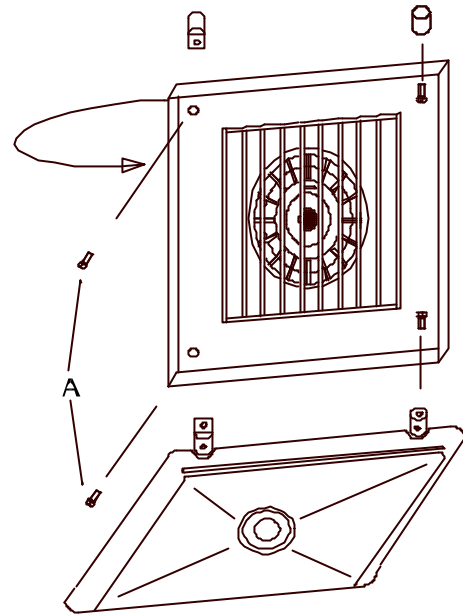

Figure 9a
9.3.3. Spray a suitable degreasing detergent on the walls, on the inner side of the door, through the protective grid of the fan and along the perimeter of the panel (fig. 9a and 9b) following always the using directions and warnings given by the manufacturer of the product. Use rubber gloves and be careful that the product does not touch your skin or eyes.
To reach the fan, remove the «A» screws in fig. 9a, which fix the panel on the left hand-side inside the chamber of the oven. The fan must be uniformly cleaned, and no calcareous scales must remain.